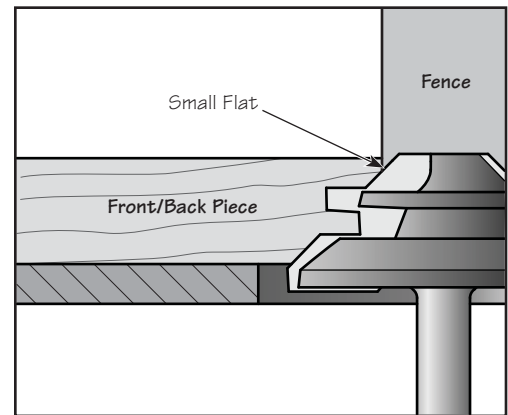
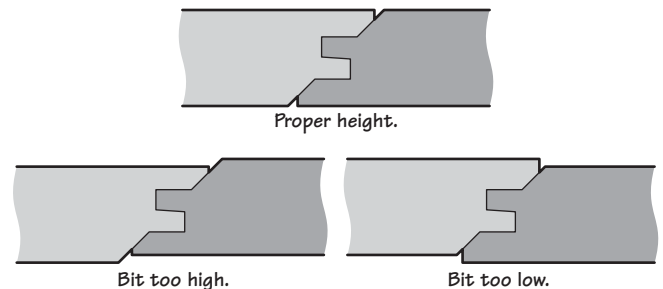

Figure 3: Setting the fence position.
Figure 4: Checking the bit height.
3. Set the router fence so that a small flat will be left when the front piece is cut (see **Figure 3**). Final fence positioning is done after the height is perfected. The size of the flat is not critical, but should be enough for the workpiece to bear against after being shaped by the bit.
4. Using trial pieces of the same thickness as the front piece, create two end-grain cuts (see **Figure 3**). Test the height of the bit by assembling the test pieces as shown in **Figure 4**. If the bit is set to the correct height, the two pieces will be aligned. To correct for misalignment, the bit need only be adjusted by half of the error.